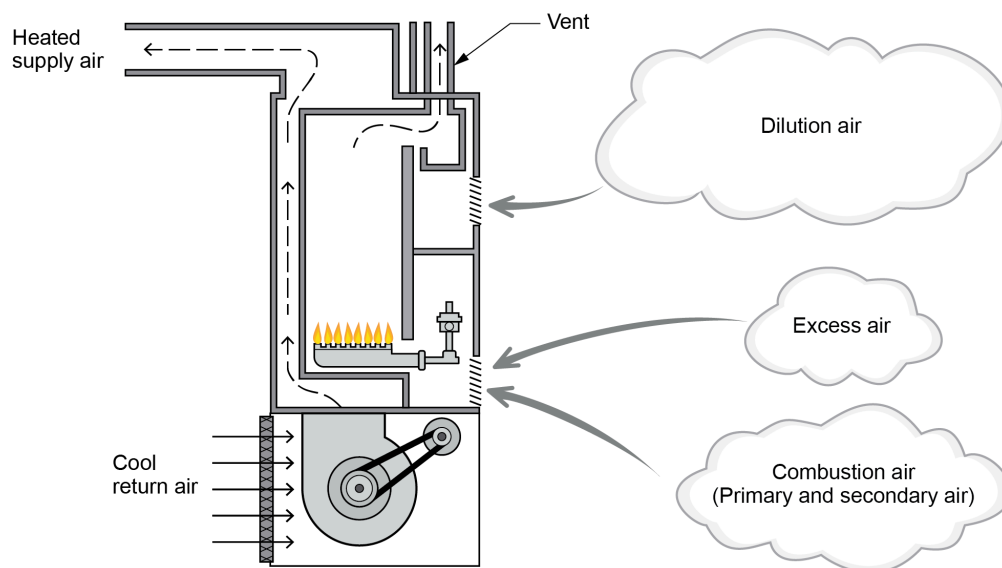

Figure 1 Types of gas appliance air supply. (Skilled Trades BC, 2021) Used with permission.
- **Figure 1** Fire tetrahedron (https://commons.wikimedia.org/wiki/File:Fire_tetrahedron.svg) (adapted) by Gustavb (<https://en.wikipedia.org/wiki/User:Gustavb>), via Wikimedia Commons, is in the public domain (https://en.wikipedia.org/wiki/en:public_domain).
Air supply (Figure 1) has three main categories: